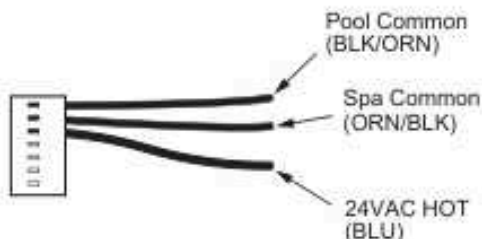

Figure 55. 7-Pin Remote Interface Harness
- On the "Remote Interface Harness", connect the BLUE wire to one side of the "REMOTE" switch and connect the other side to either the ORANGE/BLACK wire for "SPA" operation or the BLACK/ORANGE wire for "POOL" operation. See Figure 55.
- On the "Remote Interface Harness" connect the BLUE wire to one side of the "REMOTE" switch and connect the ORANGE/BLACK wire for "SPA" operation and the BLACK/ORANGE wire for the "POOL" operation. See Figure 55.